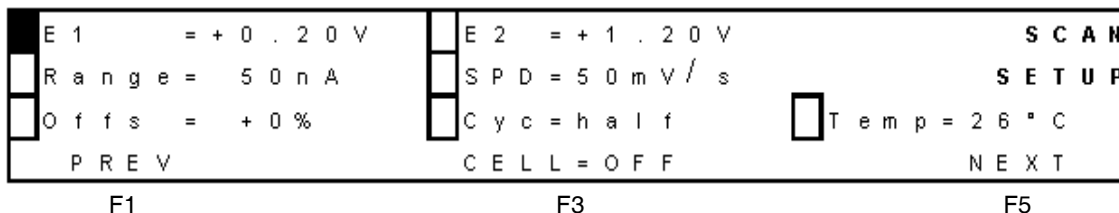

Figure 3-59 Scan Setup Screen
1. From the Main screen, select **F4 SCAN**. The Scan Setup screen appears (Figure 3-59).